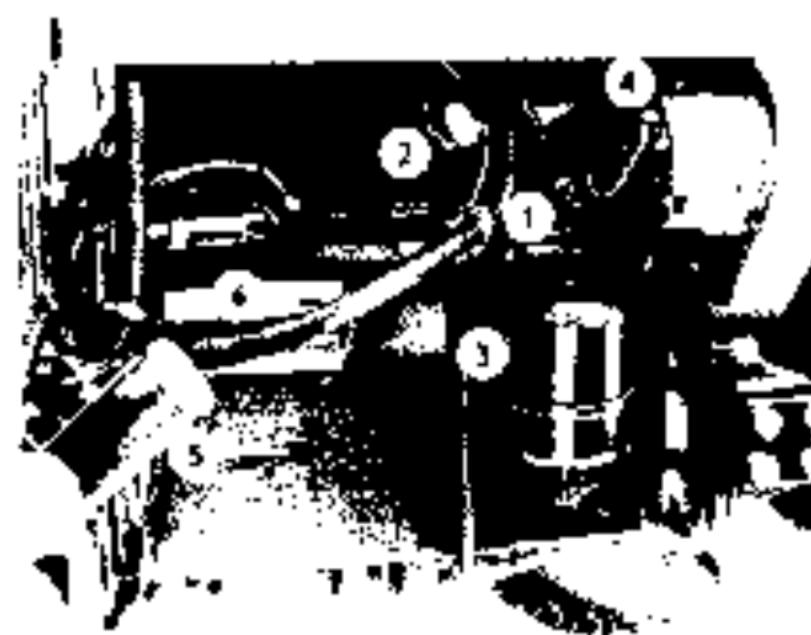

Fig. 5
1. Fuel filling hole (Fig. 5 5).
2. Cooling liquid filling hole (Fig. 5 1).